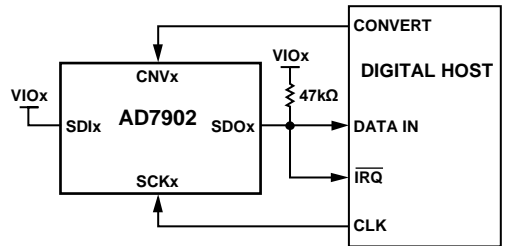
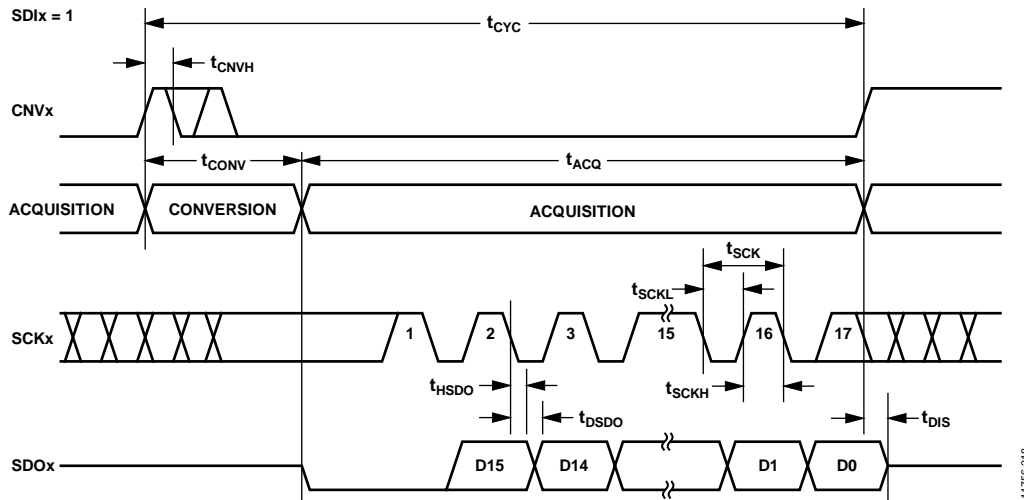
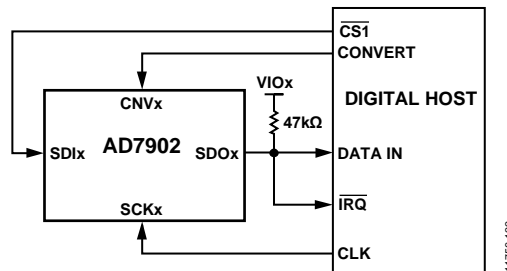
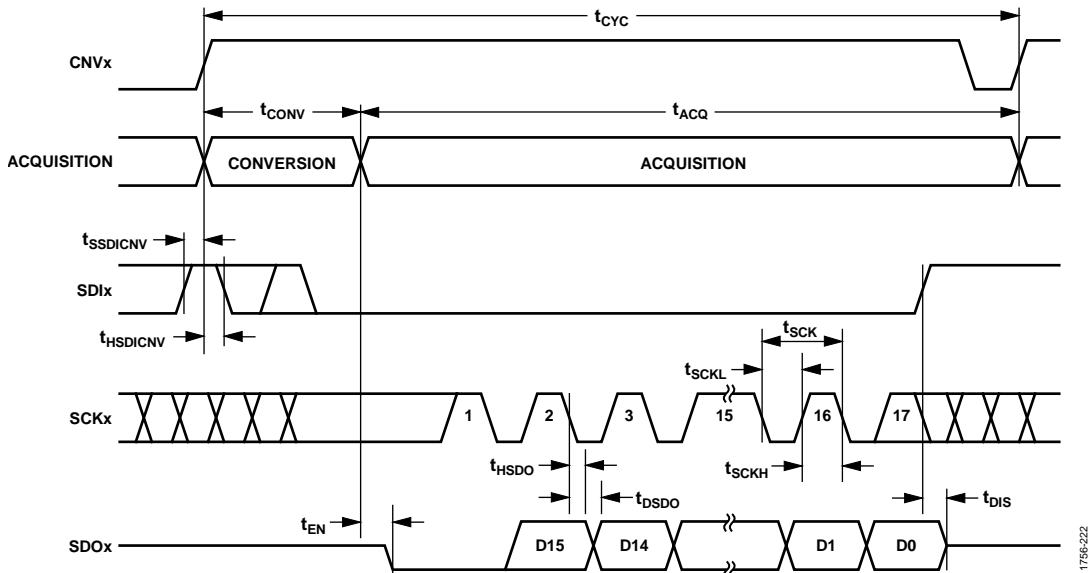

Figure 40. \overline{CS} Mode, 3-Wire Interface with a Busy Indicator Connection Diagram ($SDIx$ High)
Figure 41. \overline{CS} Mode, 3-Wire Interface with a Busy Indicator Serial Interface Timing ($SDIx$ High)
Figure 44. \overline{CS} Mode, 4-Wire Interface with a Busy Indicator Connection Diagram
Figure 45. \overline{CS} Mode, 4-Wire Interface with a Busy Indicator Serial Interface Timing
- In \overline{CS} mode when CNVx or SDIx is low when the ADC conversion ends (see Figure 41 and Figure 45).
The connection diagram is shown in Figure 40, and the corresponding timing is shown in Figure 41.
The connection diagram is shown in Figure 44, and the corresponding timing is given in Figure 45.